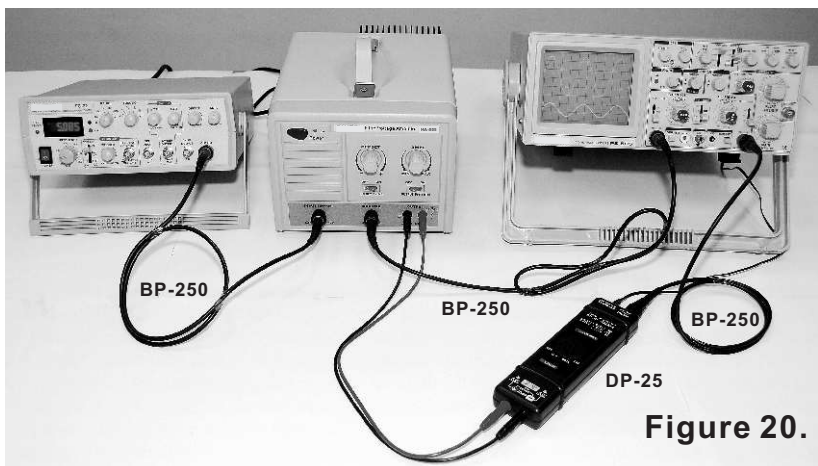

Figure 20.
5.3 Use Function Generator as input, to observe the HA-805 Monitor and Output, and the real output situation from oscilloscope. (Figure 20.)